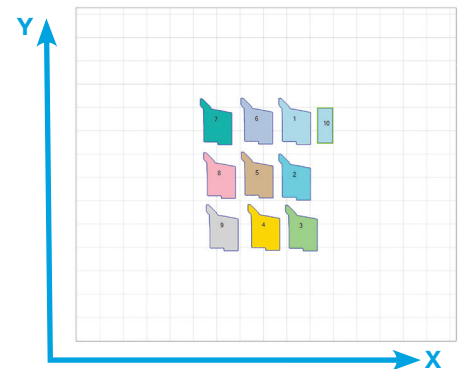

Figure 8: On the Fortus 450mc, a pack of multiple parts is placed in the center of the platen with the parts positioned concentrically outward from the center.
- Multiple Parts – Place in the center and move concentrically outwards (Figure 8).